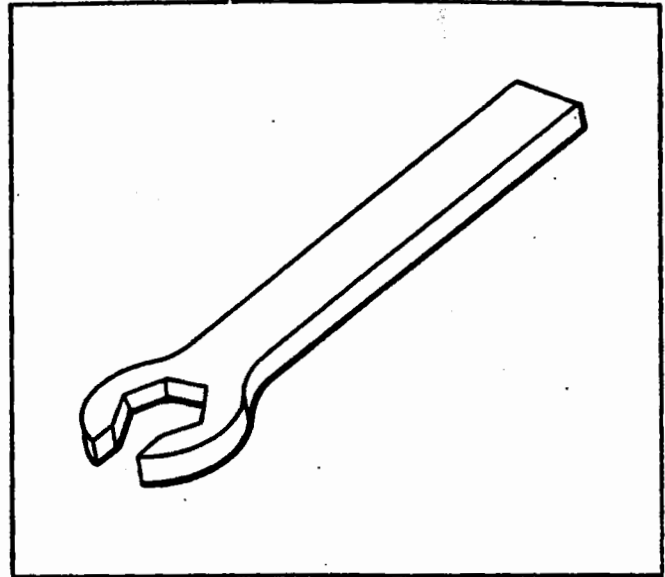

Figure 4-72A. Reworked Box Socket Wrench.
b. When using the collet-type nipple connection, remove the locking clip (18) from the nipple (17) and unscrew the nipple. Insert the conduit in the nipple until the conduit bottoms in the swivel fittings (14), then slide the nipple back and forth several inches on the conduit to insure that the end of the conduit is free from burrs and that the outside diameter of the conduit is not oversize. The nipple must slide freely. With the conduit bottomed in the swivel, and held in this position, install and tighten the nipple until it holds the conduit firmly. It will require the application of considerable torque, between 80 and 100 pound-inches, to tighten the nipple sufficiently. A box socket wrench, reworked as shown in figure 4-72A, should be used to prevent stripping the hexagon head of the nipple. No more than three threads should show after the nipple has been tightened. The installation must be inspected to insure that the conduit is securely fastened by the nipple. When the whole conduit line is completely installed and has passed inspection, run a No. 51 drill through both pilot